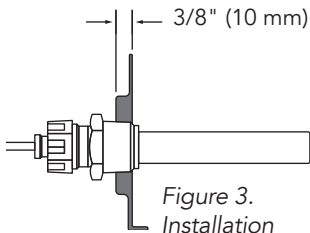
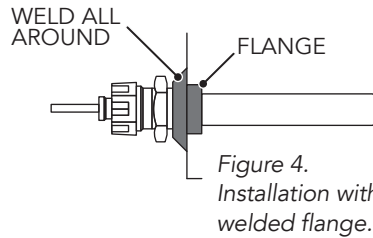

Figure 3. Installation without flange.
Figure 4. Installation with welded flange.
**Improper Mounting:** The wall of the sump must be at least 3/8 inch (10 mm) thick to provide an adequate mounting hole. If the sump wall is too thin, a flange must be installed to mount the heater. Heaters mounted to thin sump walls are vulnerable to vibration damage and may leak or become detached. See Fig. 3 and Fig. 4.